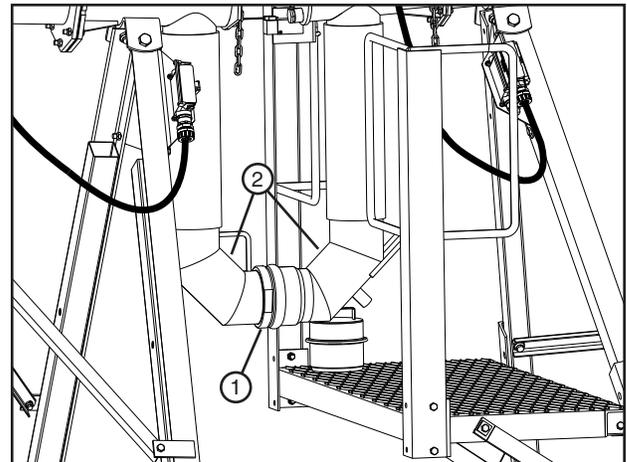

Figure 27-1 1. Ring Lock
11. Remove the ring-lock clamp and uncouple the water transfer elbows from each other. See Figure 27-1.